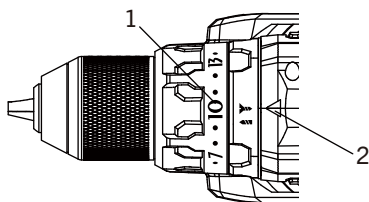
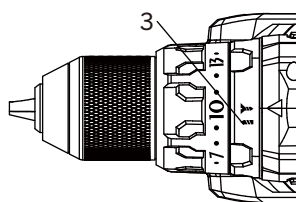

Fig. 4
Fig. 5
1. Identify the torque settings located on the torque adjustment ring (1) (Fig. 4).
2. Rotate adjustment ring to align the correct torque setting number with the torque indicator arrow (2). See the chart below for the correct torque settings.
-  For drilling. This position is marked with a drill bit icon (3) on the torque adjustment ring (Fig. 5).